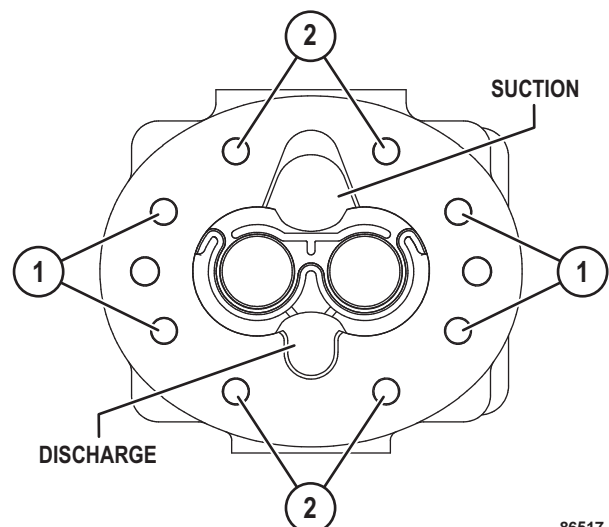

FIGURE 50-18. STUD INSTALLATION
8. Lubricate the threads of four short studs (1, Figure 50-18) and four long studs (2) with clean type C-4 hydraulic oil. Thread the studs into flange (2) until they bottom out. Refer to Figure 50-18 for proper stud location.